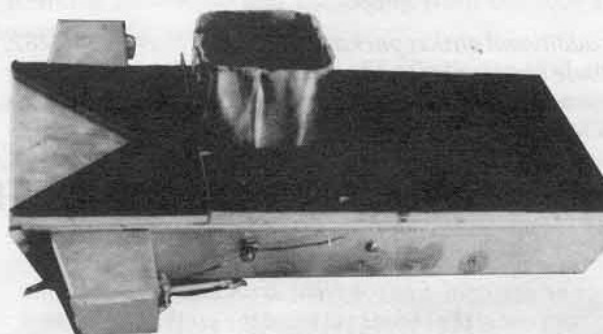

Fig. 20
7. Place the untrimmed (factory sheared) end of the duct collar over the ceiling assembly duct discharge opening flanges and position it around the opening, See Figure 20.